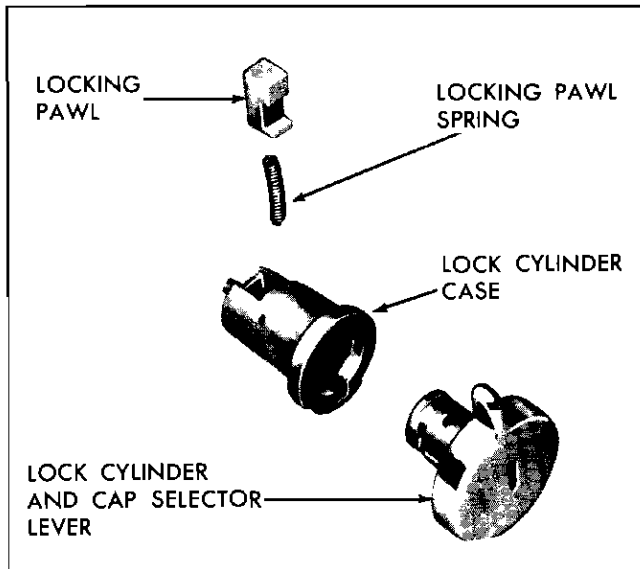

Fig. 4-19 Lock Cylinder—Manual
3. Insert a piece of wire (paper clip) in hole on face of lock cylinder cap (selector lever). While holding lock cylinder case, depress plunger with wire sufficiently to allow key and selector lever to be turned counterclockwise approximately $\frac{1}{8}$ turn; then, remove lock cylinder and cap (selector lever) assembly from handle assembly (Fig. 4-19).
NOTE: When removing lock cylinder and cap assembly from case, place finger over locking pawl to prevent pawl and spring from popping out (Fig. 4-19).